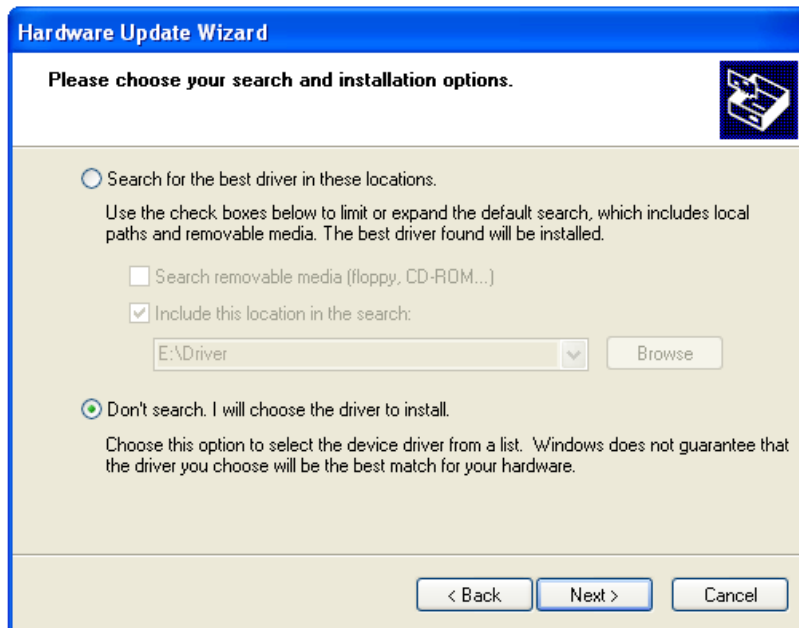

Fig. 49
- Choose “Don’t search. I will choose the driver to install” и click “Next” (*Fig. 49*).